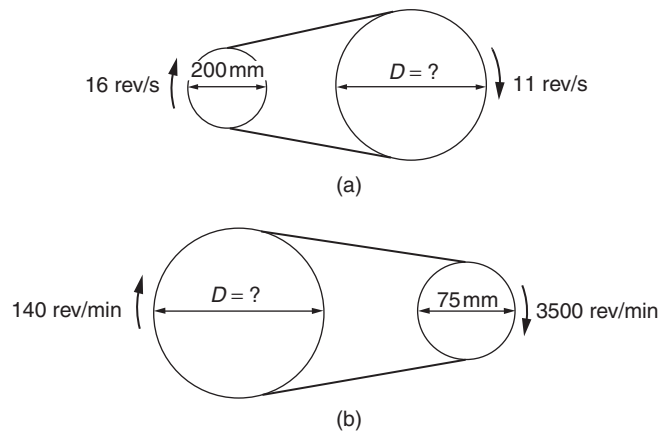

Fig. 91
15. Calculate the diameter of the larger pulley in Figure 91(a) and (b).